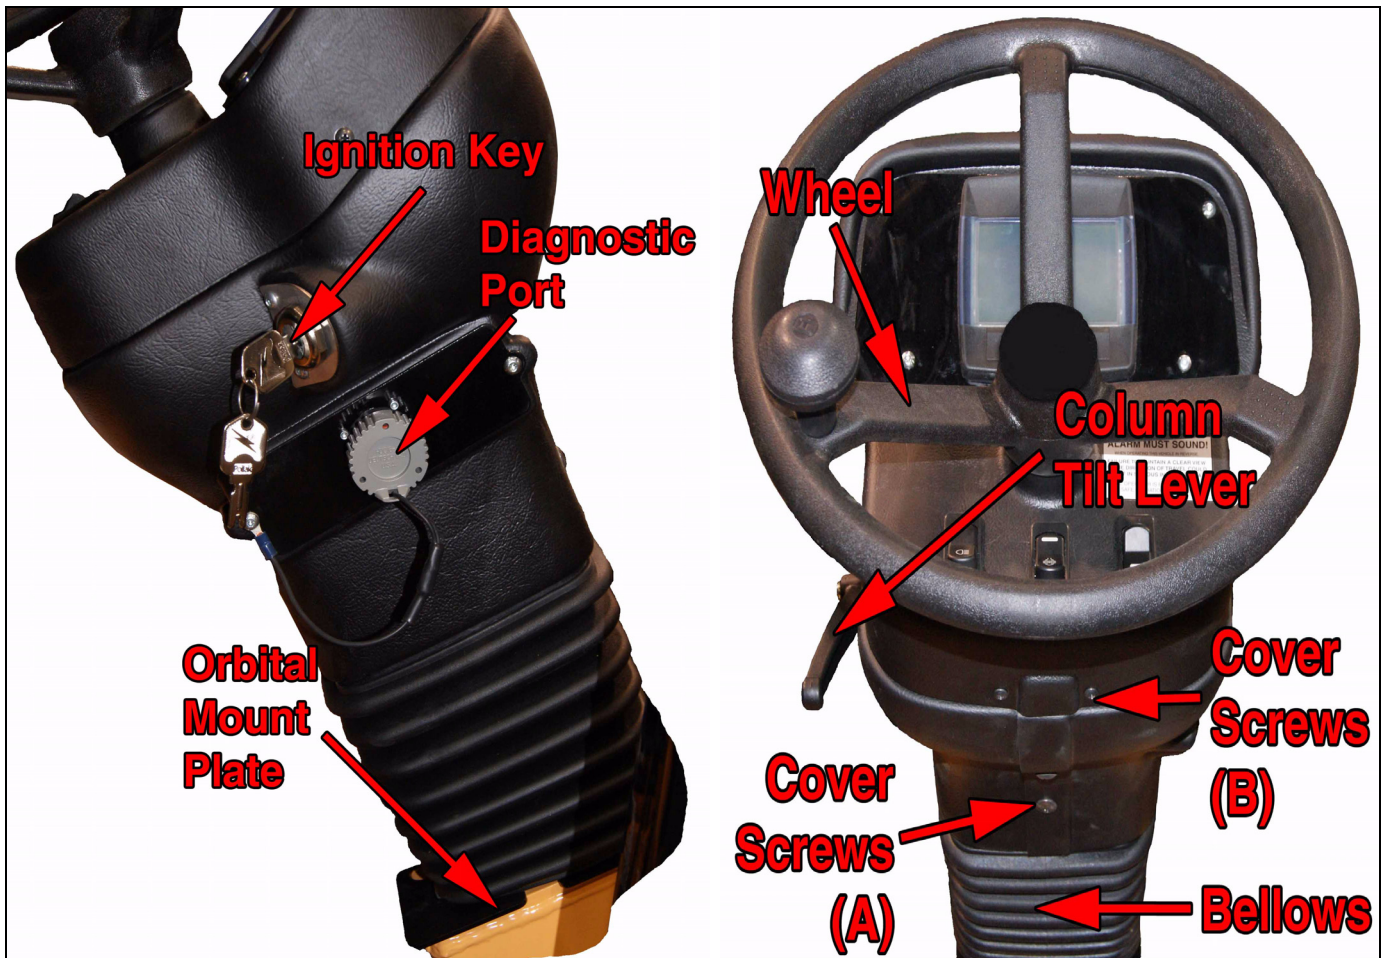

Figure 3-18:
5. Loosen the Allen set screw in the tilt steering lever and remove the lever from the stem. See Figure 3-18.
6. Remove the four large screws and hardware marked **(A)**. See Figure 3-18.
7. Remove the three right side top cover screws and hardware marked **(B)**. See Figure 3-18.